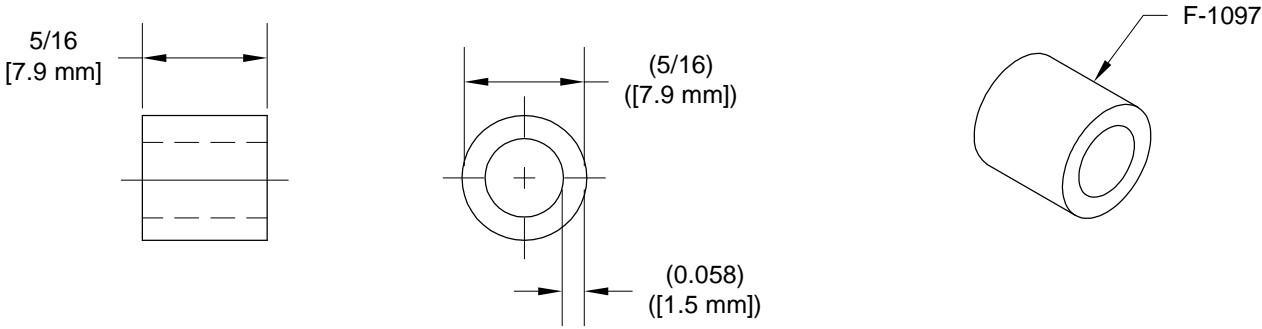

FIGURE 1: SPACERS
Step 1: Fabricate four F-1097 Spacers from AT6-058X5/16 6061-T6 aluminum tubing as shown in Figure 1.
Step 2: Cleco together the CS-00018A Brake Pedal Pads, CS-00018C Brake Pedal Z-Channels, CS-00018B Brake Pedal C-Channels, and F-1052B Brake Pedal Side Plates to create the four brake pedal assemblies. See Page 33-04, Figure 1 for additional reference.